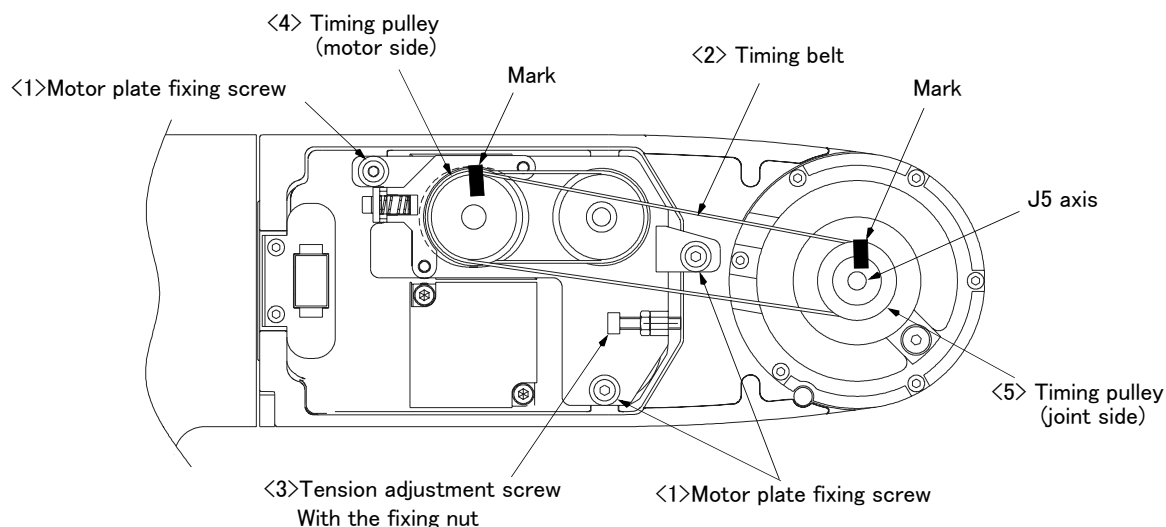

Fig.5-9 : Inspection, maintenance and replacement of J5 axis timing belt
The reference figure at inspection, adjustment, and replacement of the timing belt is shown in Fig. 5-9 .
- 3) Make marks on the timing belt <2> and timing pulleys <4> and <5> with a felt-tip pen as shown in Fig. 5-9 so that the engagement of the timing belt <2> and timing pulleys <4> and <5> does not deviate.
- 8) Refer to "■ Adjusting the J5 axis timing belt" and "(8) Timing belt tension" to adjust the tension.
- 3) Loosen motor fixing screw (1). (two pc.) (Do not loosen too much.)
- 4) Move motor side timing belt pulley (4) in the direction of the arrow "a" of Fig. 5-9 , and remove the brake timing belt..
- 8) Refer to "■ Adjusting the J6 axis timing belt" and "(8) Timing belt tension" to adjust the tension.